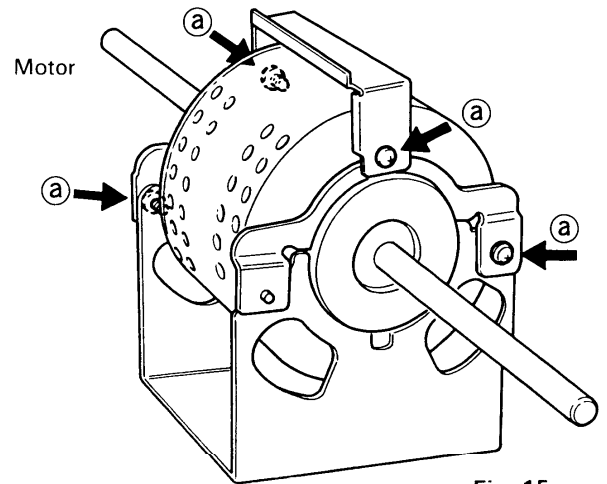

Fig. 15
(3) Remove the four screws (a) fixing the motor. Fig. 15